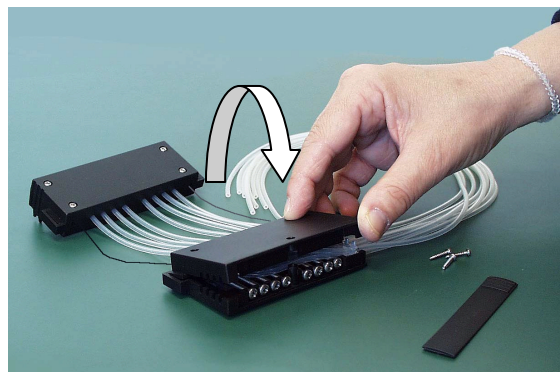

Fig. 7.27 Replacing the cover of the upper part of the dispensing cassette
12. Replace the upper part cover of the dispensing cassette carefully (Fig. 7.27).